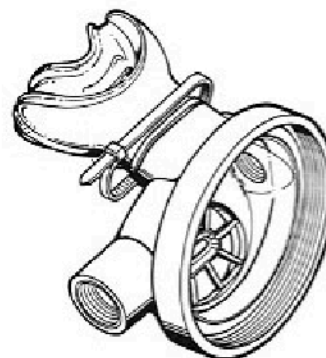
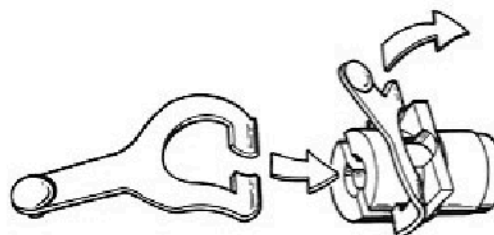
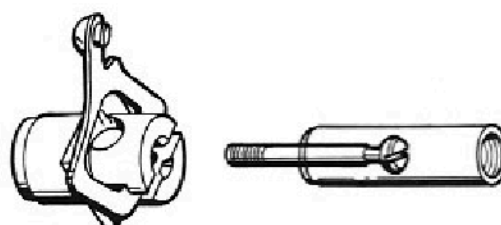
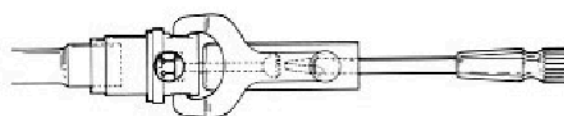

Figure 6
Figure 7
Figure 8
Figure 9
1. Affix the mouthpiece (item 1) to the box bottom (item 2) and fasten the mouthpiece in place with a new mouthpiece clamp (item 3). The lock tab on the mouthpiece clamp should be aligned with the air-inlet boss of the box bottom (see figure 6). Tighten the mouthpiece clamp with pliers and snip the extra length with wire cutters.
2. Insert the exhalation valve (item 4) into the box bottom (item 2) by pressing in on the center of the exhalation valve with your thumb. Be sure the exhalation valve is properly seated. Next, refit the exhaust tee (item 5).
3. While holding the lever support (item 6) with the notched groove facing up, slide the lever (item 7), with its button facing up, into the notched groove of the lever support (see figure 7). Set the assembly aside.
4. Install the connector rod (item 8) in the non-beveled side of the sheath (item 9).
5. Pass the threaded end of the connector rod (item 8) through the opening in the lever side of the lever support (item 6). See figure 8.
6. Insert the small screwdriver blade of the 1016-84 adjustment tool into the sheath (item 9) to hold the connector rod in place.
7. Place the washer (item 10) over the threaded portion of the connector rod. Apply a small amount of silicone grease on the locknut (item 11) to help retain it in the end of the 5.5mm nut driver. Place the locknut (item 11) into the long end of the 5.5mm nut driver. Thread the locknut onto the threaded end of the connector rod (item 8) by turning the nut driver clockwise. See figure 9.
8. Hold the lever support assembly (item 6) by the lever support with your thumb and index finger. Tighten the locknut (item 11) clockwise until the sheath (item 9) touches the lever support (item 6). Then, turn the locknut (item 11) counterclockwise two full (360°) turns. The lever support assembly is now properly adjusted.
9. First, thread the intermediate screw (item 12) clockwise into the end of the sheath (item 9) by hand. Then, while holding the sheath (item 9) with your fingers, or